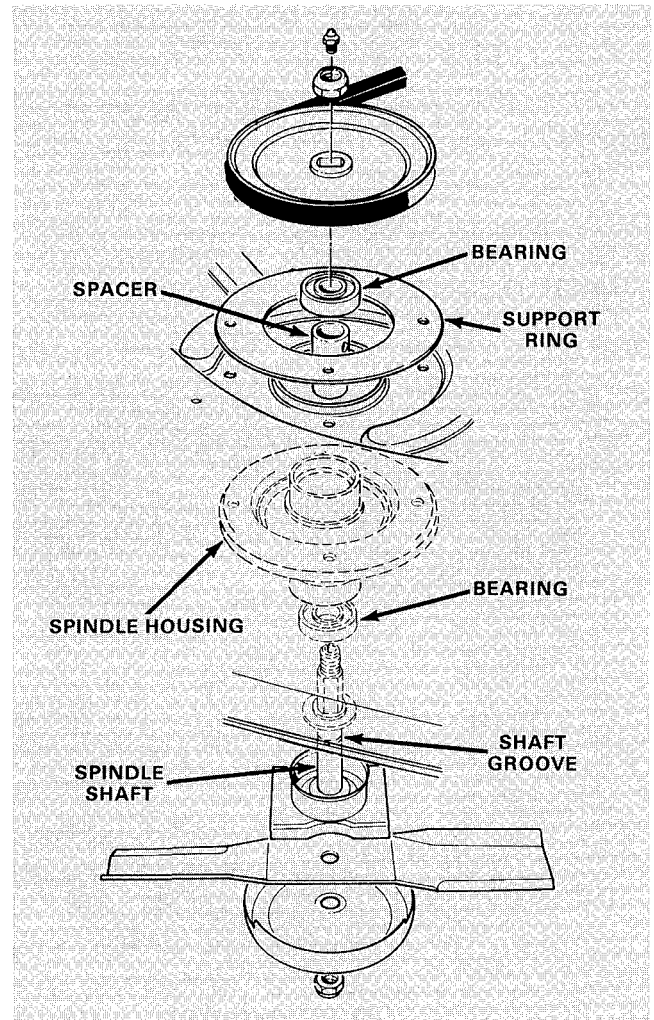

Figure 18
8. Slide pulley end of spindle assembly through hole in cutting unit. Mount spindle assembly in place with support ring, capscrews and nuts (Fig. 18).